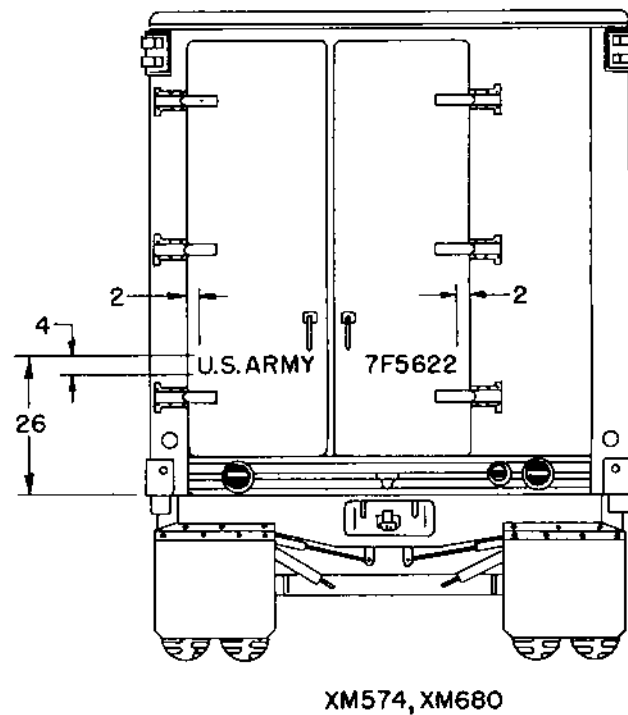

Figure 3-4. Stencil locations.
b. *Identification Marking.* Re-stencil the semitrailer chassis or body if the markings are not legible. The markings consist of the agency identification, U. S. ARMY, and army serial number stenciled on lower front (each side) and on the rear of the van body (fig. 3-4). Instructions for marking are contained in TB 746-93-1. The numerals and letters are four inches in height, of simple block type with curved lines where applicable, and painted with white semigloss enamel to specification TT-E-489. Proceed as follows to re-stencil the markings.